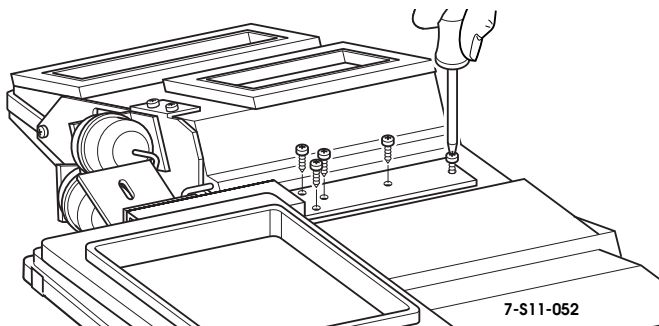
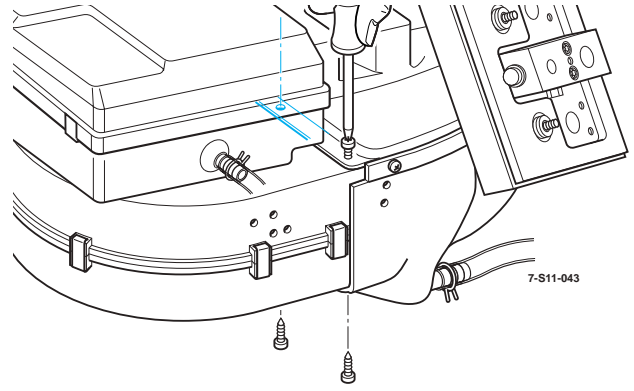

Figure 11-74: Air Intake Box Front Bracket Removal
Figure 11-75: Lower Blower Housing Hardware Removal
5. Remove air intake housing from main unit by removing attaching screws at blower housing (Figure 11-75) and bracket at front of unit (Figure 11-74).